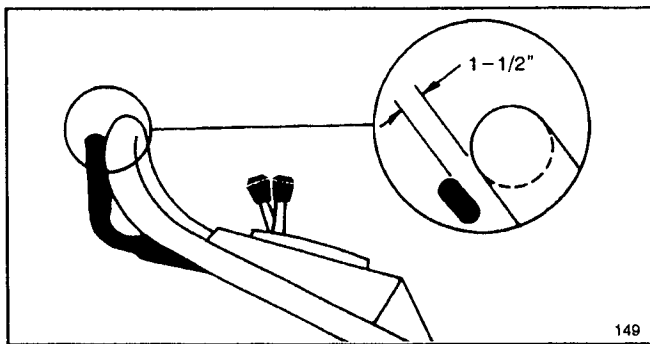

Figure 17
4. Lift control bar until some resistance is felt. Control bar should be 1-1/2" from handle when properly adjusted (Fig. 17).